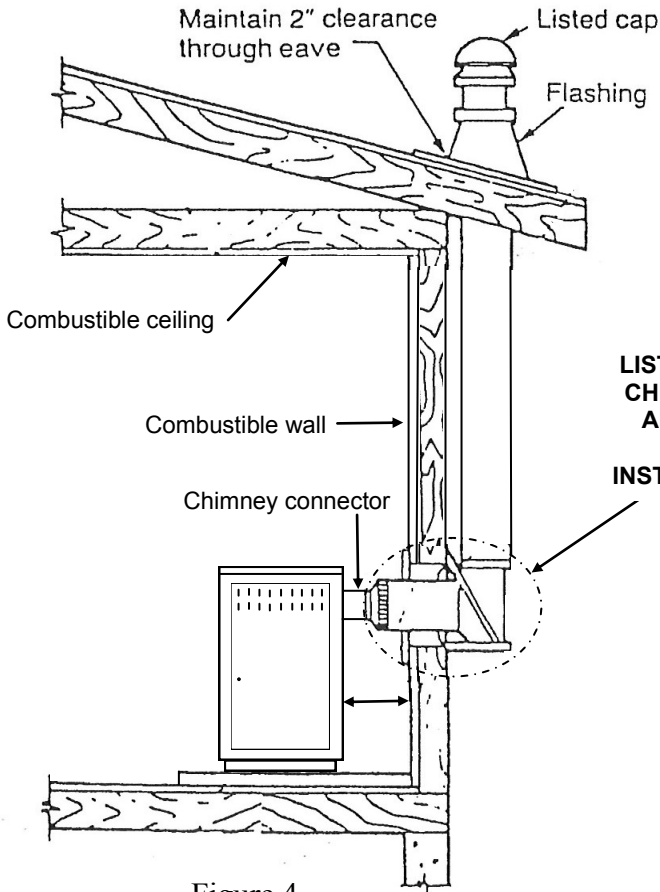

Figure 4
1. Back exit through wall, exterior chimney outside residence. Use listed 2100° UL 103 HT Type Chimney and T-Box assembly system. (See figure 4, Page 8).